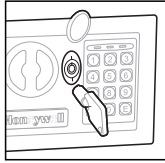

Figure 2
2. Insert the override access key into the lock until it stops (Figure 2).